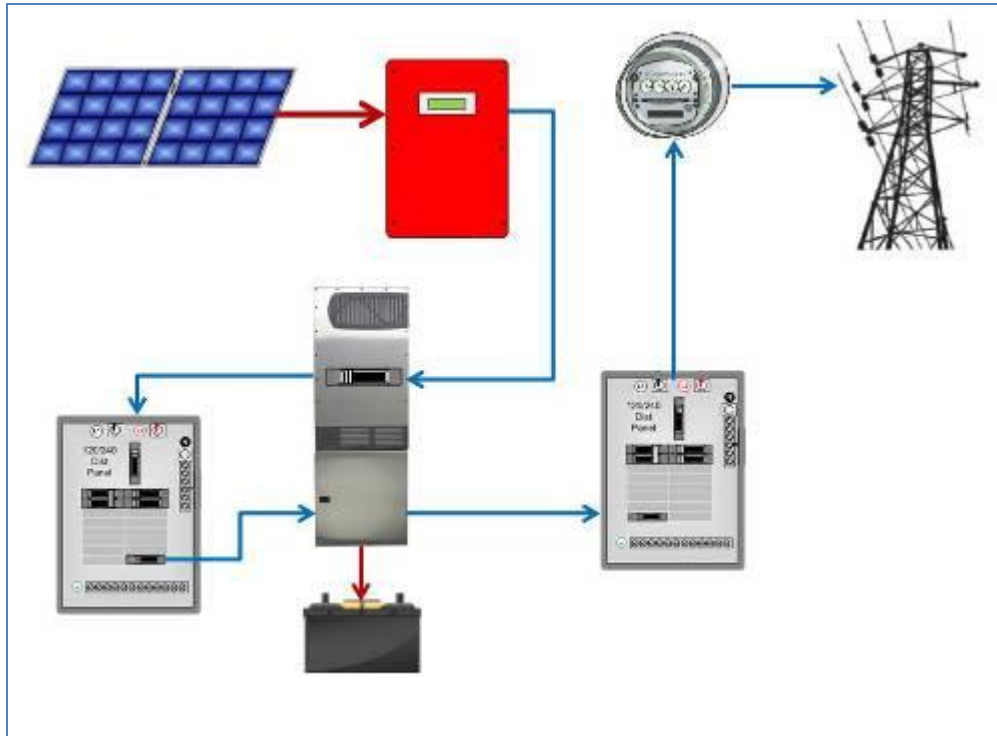

Figure 3 – Current path when grid power is present.
**Adding energy storage through AC-coupling:** For the owners of these more common grid-tied, grid-dependent inverters, there is a way to tie in a battery-backup inverter system using a method called *AC Coupling*. It typically requires adding a load center with circuit breakers and electrical connections for the building’s critical loads. This allows a point at which the grid-tied (GT) inverter and the battery-based (BB) inverter to “couple” and share their energy to the loads. In a normal mode of operation with grid power available, the energy from the PV array flows through the GT inverter to the critical load panel, with any excess energy flowing through the load panel to the BB inverter, and on out to the grid (see Figure 3).
When the sun comes out the next day, the system reverts to the power flow as shown in Figure 3, with any extra energy used for recharging the batteries. If no excess is available then some manual load-shedding (divesting of less critical loads to prioritize the most critical, such as lighting and refrigeration) may be necessary through the turning-off of the critical load panel connected devices until the batteries are charged. If the critical loads are absolutely essential and load shedding is not an option, then adding a generator to the backup system can satisfy the critical load demand while charging the batteries.